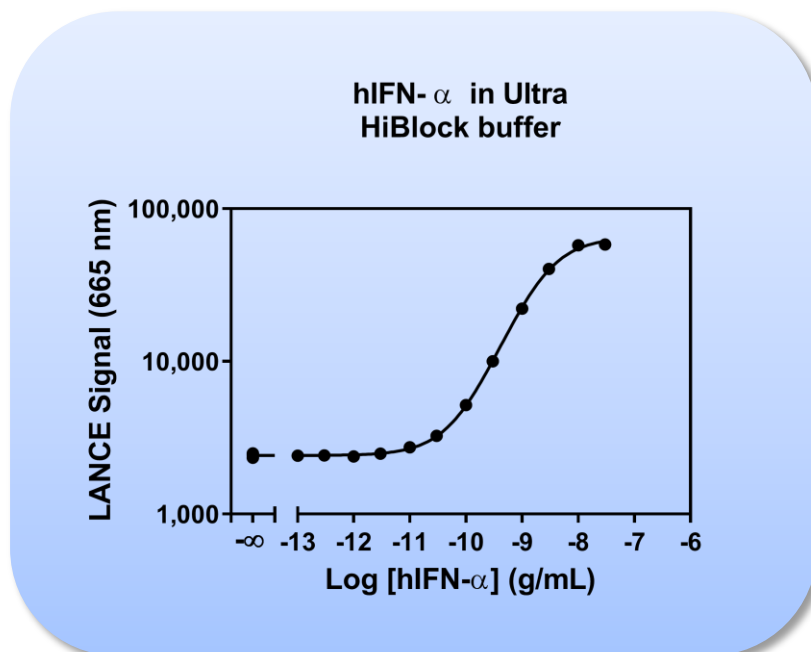

Figure 1. Typical sensitivity curves in *Ultra* HiBlock Buffer. The data was generated using a white OptiplatTM-384 microplate and hIFN- $\alpha$ .
**Dynamic range:** Kit designed to detect hIFN- $\alpha$  between: 7.1 – 100,000 pg/mL (Figure 1).